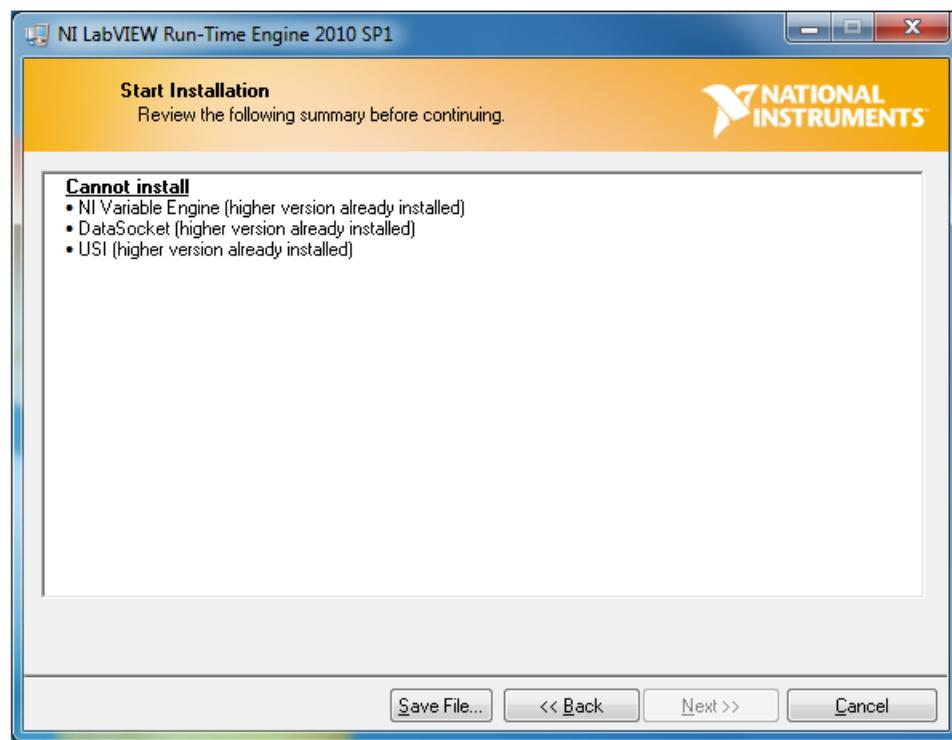

Figure 45. HMC-DAQ GUI Install (LabView Run-time Engine Installation)
12. The run-time engine installs unless it has already been detected as should be the case if the HSDCPro GUI was already installed. In this case, the following message appears. Press the Cancel button, as in Figure 45.